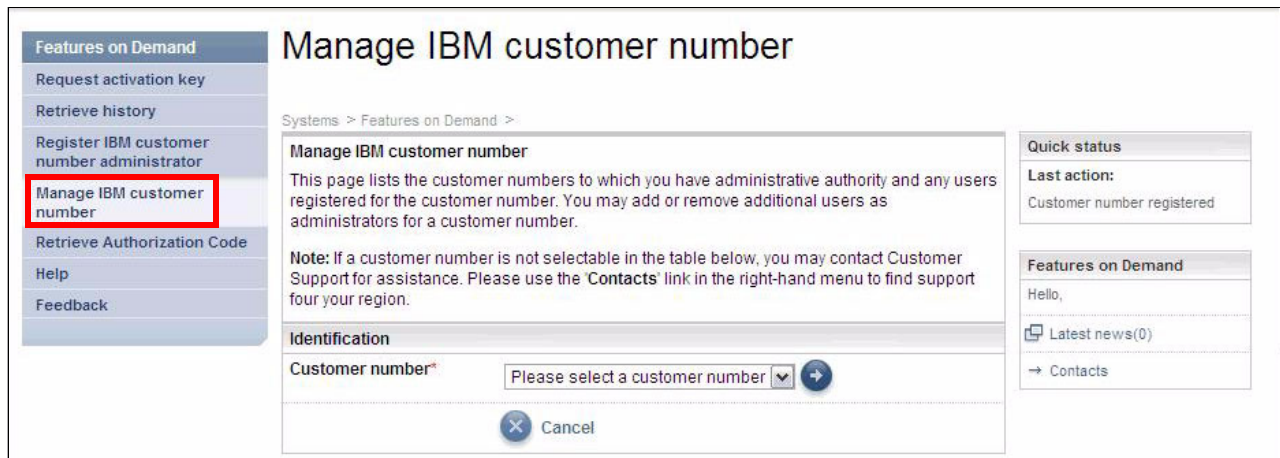

Figure 2-47 Manage IBM customer number main page
1. Select **Manage IBM customer number** from the left navigation pane, as shown in Figure 2-47.